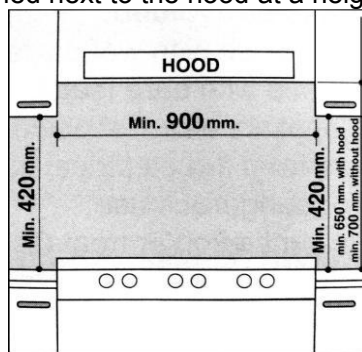

Fig.5
- c) The cabinets should be positioned next to the hood at a height of at least 420 mm (Fig. 5).